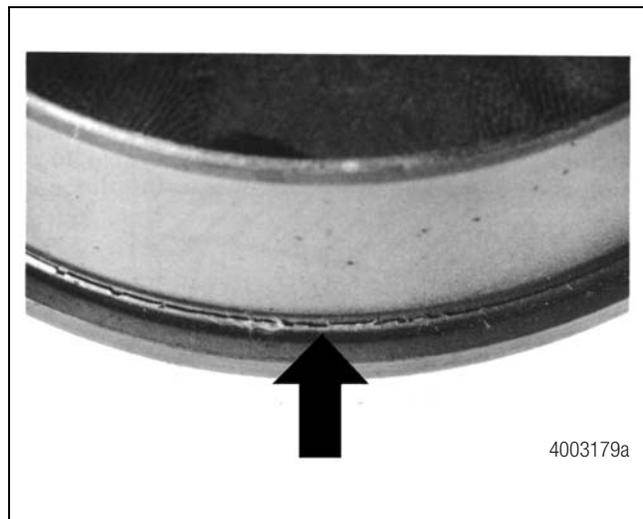

Figure 4.9
B. The rib is worn. Figure 4.9.